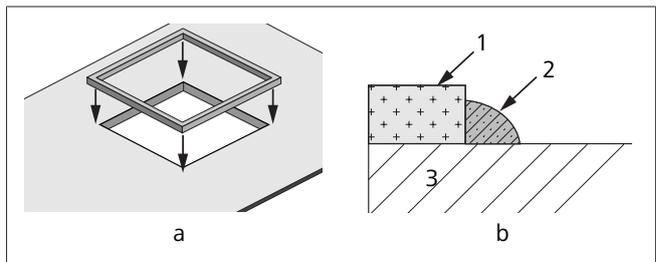
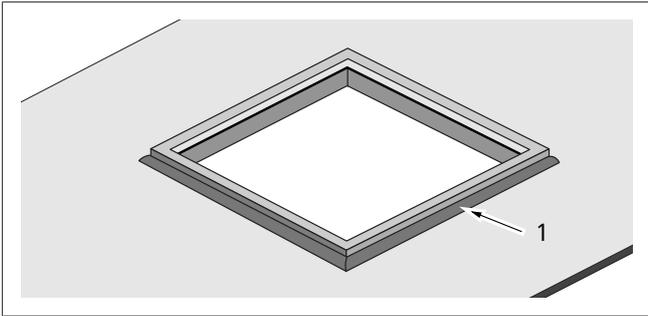

Fig. 14 CTT35_Mounting_the_gasket on a 360 x 360 cut-out (without an adaptor frame)
Fig. 15 Application of sealant (only applicable to a gasket on a 360x360 cut-out (without adaptor frame))
- 1. Peel off the backing paper and stick the gasket onto the roof (360 x 360 cut-out). See Fig. 14-a and b.
- 3. Apply self-levelling RV roof sealant around the gasket to prevent leakage. See Fig. 14-b and Fig. 15.